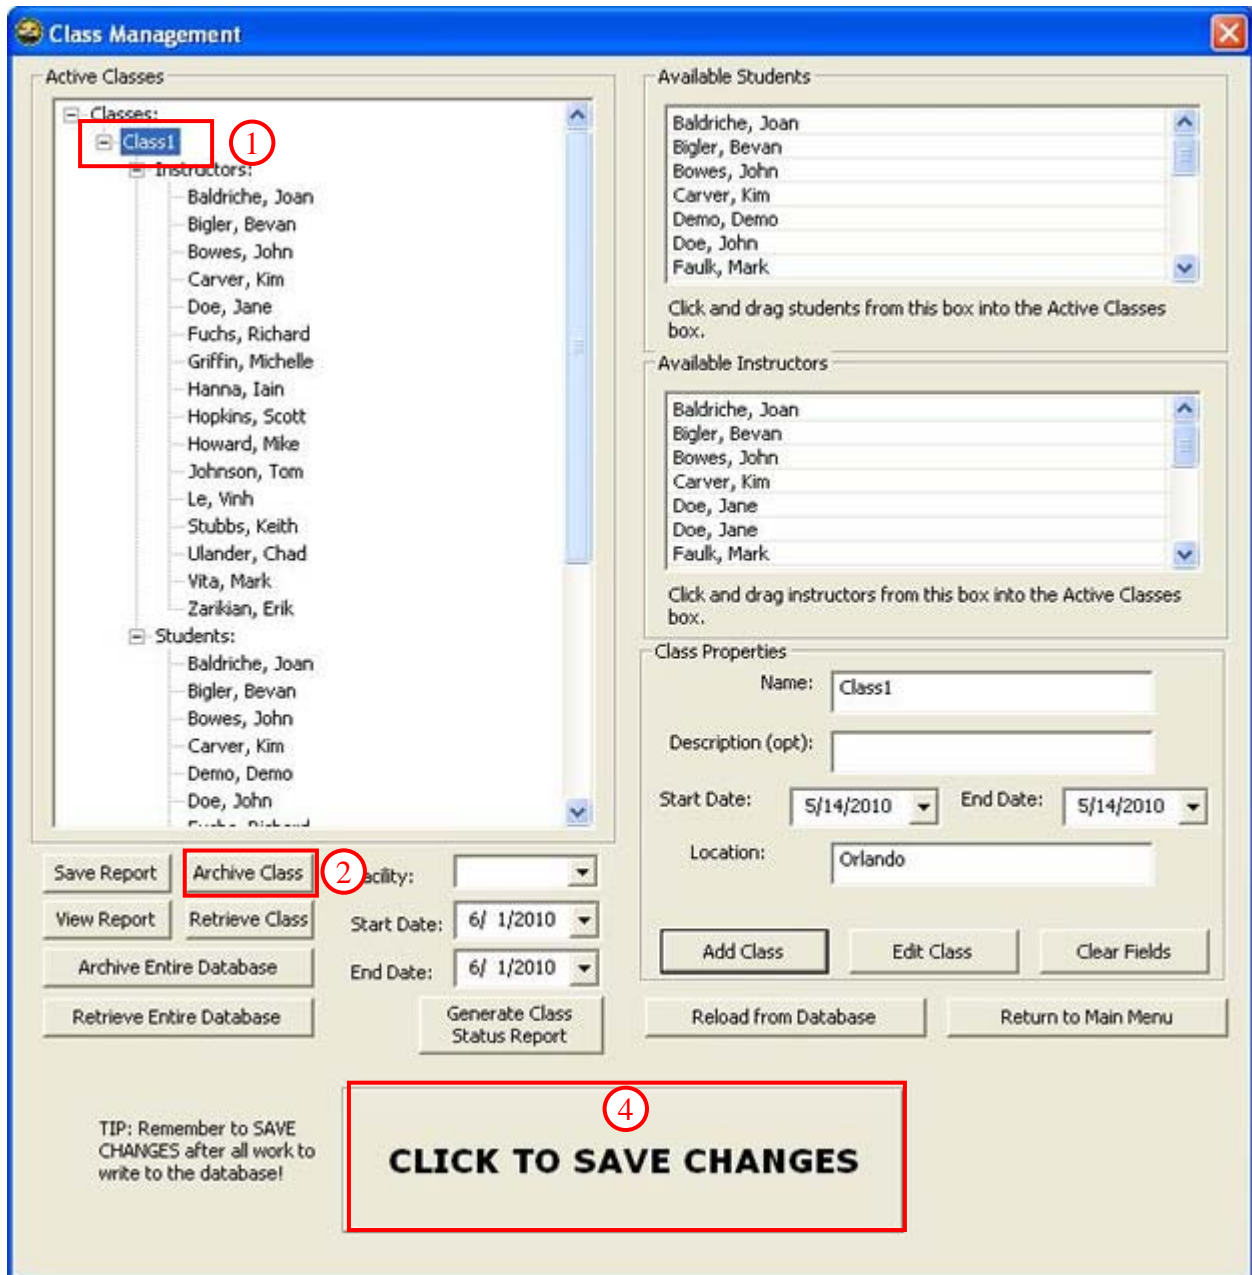

Figure 88. Class Management - Archive Class
1. Select a class from the *Active Classes* list (Figure 88).
4. Click on the [CLICK TO SAVE CHANGES] button (Figure 88).